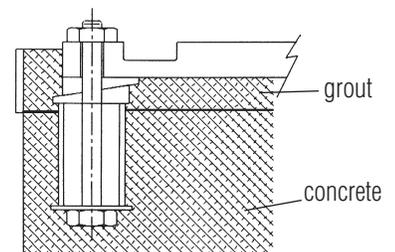

figure 7
1. The foundation that the pump will be sitting on should be strong enough to support the pump as well as absorb any vibration that the pump will produce. A concrete platform should be acceptable. Bolts embedded in the concrete can be placed by using a template or drawing. *See figure 7.* The use of a pipe sleeve larger than the bolt will compensate for base movement for final bolt location.